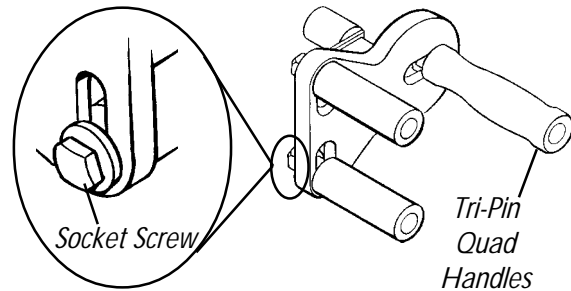

FIGURE 6 - HANDCRANK
## HAND CRANK HANDLES (FIGURE 6)
1. Position handle onto crank as shown in DETAIL "B" of FIGURE 6.
2. Loosen socket screws to adjust handle position, as shown in DETAIL "C" of FIGURE 6.